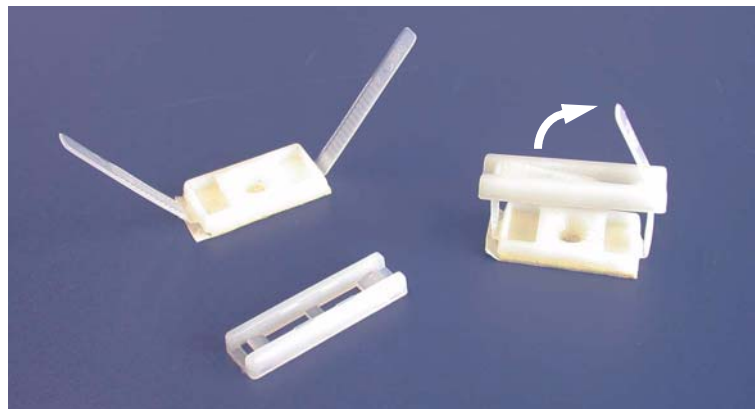

Figure 11-28. Cable grip PN 361007
4. Remove the solenoid cable from the cable grip. The grip comprises two parts, as shown in Figure 11-28. You open the grip by “unbending” the two plastic wings as indicated by the arrow.